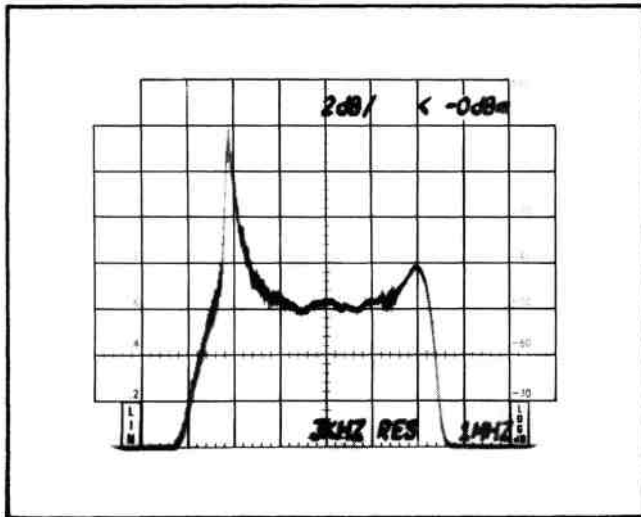

Fig. 2-10. Low level sideband response at 2 dB/Div.
6. The 2 dB/DIV mode can also be used to check the flatness (see Fig. 2-10).